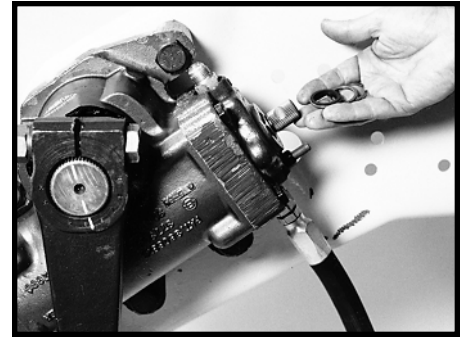

Figure 25
- 2.6 The air pressure will force the two-piece input shaft seal (7 and 8) and the steel backup washer (6) to pop out of the gear, and some fluid will leak from the gear. Discard the two-piece seal. Disconnect the shop air as soon as the seal assembly is out. SEE FIGURE 25.